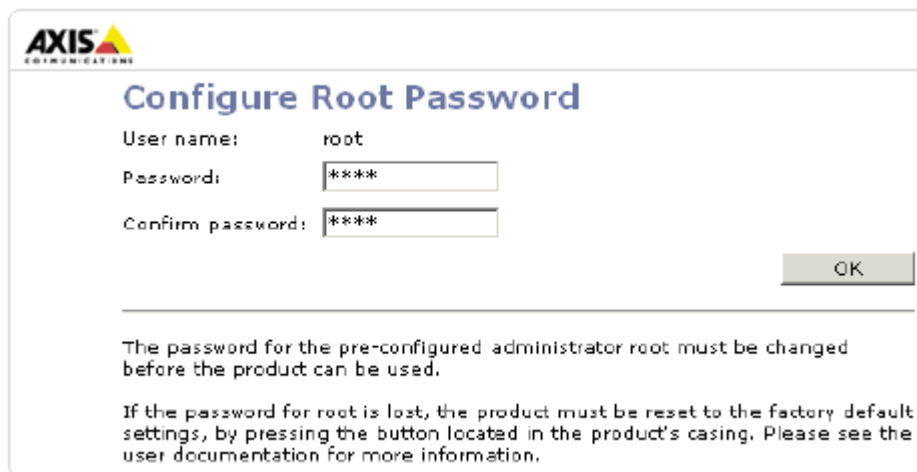

Figure 2-1: Configure root password screen
1. When accessing the AXIS video server for the first time, the "Configure Root Password" dialog will be displayed on the screen (see Figure 2-1).